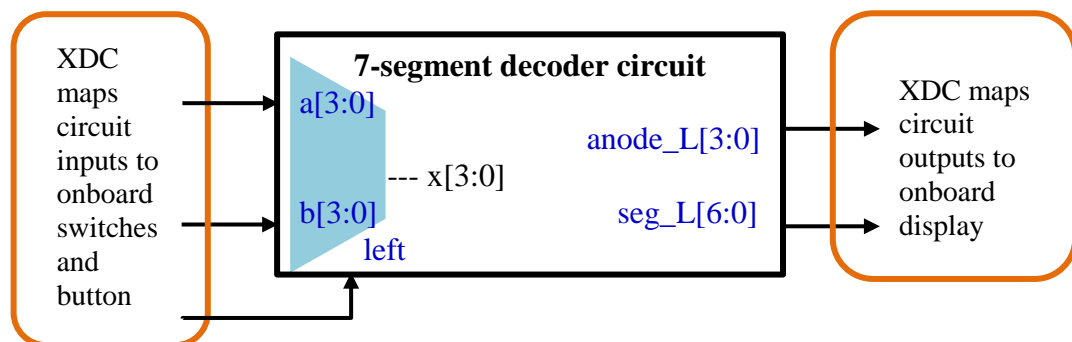

Figure 6: Multiplexer selectively displays left or right digit
- 5.5.2 Open *vsevenseg.v* to edit the design. The new circuit will have two 4-bit inputs: a and b. The input "left" will make the left digit light up instead of the right digit. Figure 6 shows how a multiplexer can be used to selectively display the digit.